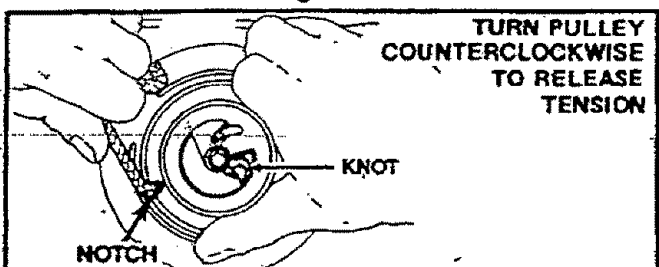

Figure 38
1. Remove the four screws on the side of the fan housing. Figure 38.
- a. Pull about 12 inches of rope from the pulley and catch the rope in the notch as shown in Figure 38.
10. Tie a knot in the end of the rope leaving no more than a 3/8 to 1/4 inch tail and pull the knot snugly into the corner of the groove in the pulley. Figure 38.
11. Tuck the tail on the rope knot into the inner curved section to avoid interference with the flywheel. Figure 38 & 40.